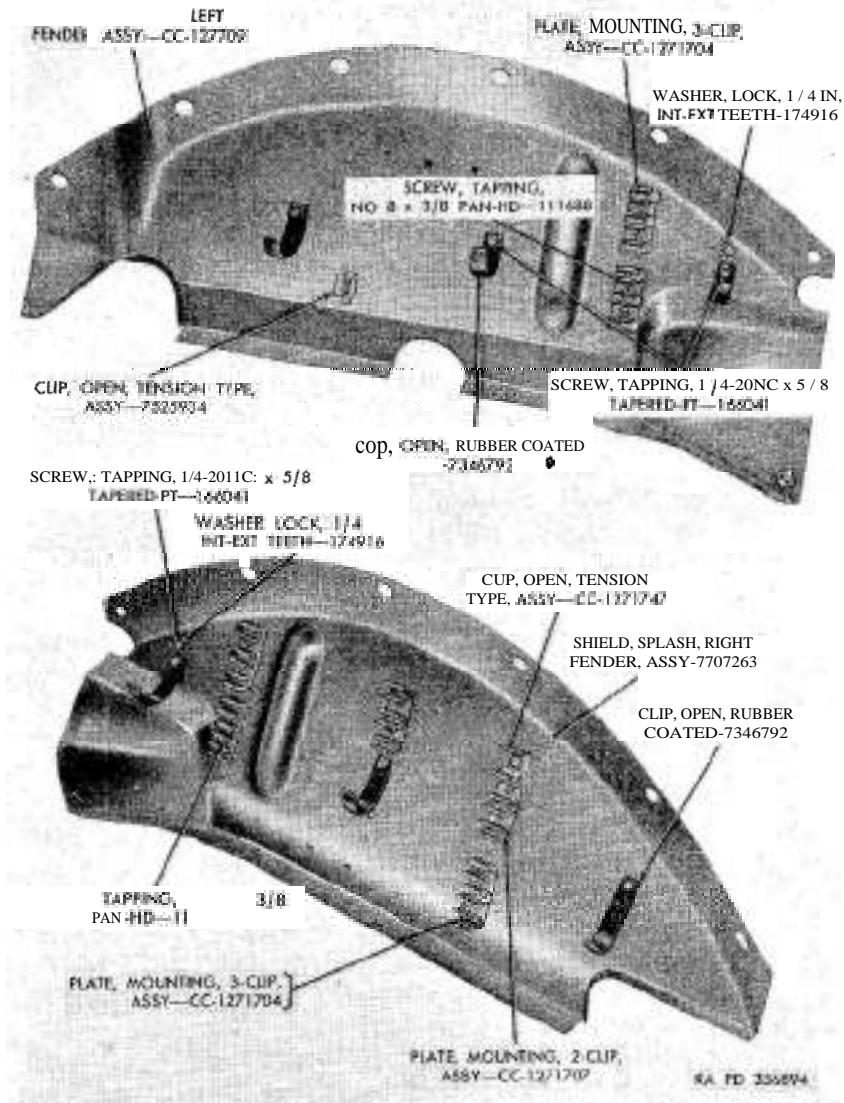

Figure 221. Right and left fender splash shield assemblies.
d. Remove Parts from Right and Left Fender Splash Shield Assemblies (fig. 221). Remove six tapping screws and rubber coated open clips from right and left fender splash shield assemblies. Remove tapping screws, tension tube open clip assemblies, and clip mounting plate assemblies from splash shield assemblies.
- (3) Inspect each splash shield-to-fender rubber filler (GG), each fender-to-cowl filler (B), and rear splash shield-to-bracket antisqueak (BB) for deterioration. Fillers and antisqueak must be replaced (pars. 303c and 305a) if not in good condition.
- (4) Inspect each front fender front support (W) for broken welds, cracks, distortion, or corrosion. Cracks and broken welds can be repaired by welding, but supports must be replaced if they are distorted or damaged by corrosion.
- (5) Inspect each cable cover (KK) for corrosion, cracks, or distortion. ~~Cracks~~ can be repaired by welding but covers must be replaced if they are distorted or damaged by corrosion.
- (6) Inspect each front fender rear support for cracks, corrosion, or distortion. Cracks can be repaired by welding but supports must be replaced if they are distorted or damaged by corrosion.
c. Inspect Right and Left Fender Splash Shield Assemblies and Related Parts (fig. 221).
- (1) Inspect right and left fender splash shield assemblies for cracks, corrosion, or distortion. Cracks can be repaired by welding but splash shields must be replaced if they are distorted or damaged by corrosion.
- (2) Inspect rubber coated open clips for cracks or deterioration. Replace clips if either of these conditions exist.
- (3) Inspect tension-type open clip assemblies for cracks or distortion. Clips must be replaced if they are not in good condition.
- (4) Inspect clip mounting plate assemblies for cracks, distortion, or loose rivets. Replace clip mounting plates if any of these conditions exist.
- (2) If inspection (par. 304b) reveals that it is necessary to replace splash shield-to-fender rubber filler (GG) or rear splash shield-to-bracket antisqueak (BB), apply a coating of synthetic rubber cement (52-C-1556) on the rear surface across the top and around the lower opening of fender rear splash shield (EE). Also apply a coating of rubber cement on the new filler and new antisqueak. Allow cement to dry for 10 minutes and install new filler and new antisqueak on each splash shield.
- (3) Position fender rear splash shield (EE) on each fender and install three fender rear splash shield lock washer screws (FF) in each splash shield. Tighten screws.
- (4) Position rubber coated open clips (D and F) on top of left front fender with large clip (F) toward front. Install two ~~1/8-20NC~~ x $\frac{1}{8}$ tapered point tapping screws (E). Tighten screws.
- (5) Position front fender front support (W) (gusset plate reinforcement forward) on each fender and install three 7/16-inch plain washers (T), ~~7/16-20NT~~ x 1 cap screws (S) (heads up), 7/16-inch lock washers (AA), and ~~7/16-20NT~~ nuts (Z). Tighten nuts.
- (6) Insert cable of service headlight assembly (H) through opening in each fender and install cable split grommet (G). Position headlight assembly on each fender and install two 5/16-inch internal external teeth lock washers (JJ) and 5/16-24NF nuts (~~HH~~) on the two front cap screws (each side). Tighten nuts.
- (7) Insert cable of each marker light assembly (R) through opening in each fender. Position each marker light assembly on each fender and install one $\frac{1}{8}$ -inch internal-external-teeth lock washer and one ~~3/8-24NF~~ x $\frac{1}{8}$ cap screw (J) through inside hole of marker light mounting bracket and fender (each side), followed by $\frac{1}{8}$ -inch internal-external-teeth lock washer (MM) and ~~3/8-24NF~~ nut (LL). Tighten nuts.
b. Install Parts on Right and Left Fender Splash Shield Assemblies (fig. 221).
- (1) Position three rubber coated open clips on right and left fender splash shield assemblies and install ~~1/8-20NC~~ x tapered point tapping screws. Tighten screws.
- (2) Position four 3-clip mounting ~~plate~~ assemblies on right
- (1) Position right and left fender splash shield assemblies (fig. 221) on truck. Install one $\frac{1}{8}$ -inch internal-external-teeth lock washer and $\frac{3}{8}$ -~~24NF~~ x $\frac{3}{4}$ cap screw (each side) to attach lower forward corner of splash shields to radiator guard right and left side supports, but do not tighten screws.
- (1) Position ground cables (No. 91) to right and left fender splash shield assemblies and install a $\frac{1}{4}$ -inch internal-external-teeth lock washer and $\frac{1}{4}$ -20NC x 5/3 tapered point tapping screw (fig. 221) (each side). Tighten screws.
- (2) Connect all cables (numbers on identifying tags must correspond on each pair of cables). Insert cables in rubber coated open clips and bend clips over cables. Insert connector shells in tension-type open clip assemblies.